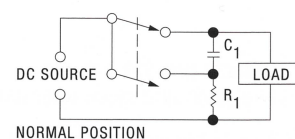

Figure 5A — Charged Capacitor Suppression
3. Vacuum switches using a charged capacitor suppression circuit that causes ringing and creates artificial current zeros have been used to interrupt up to 35kV DC at 150 amps DC resistive loads. (See Figures 5A and 5B.)